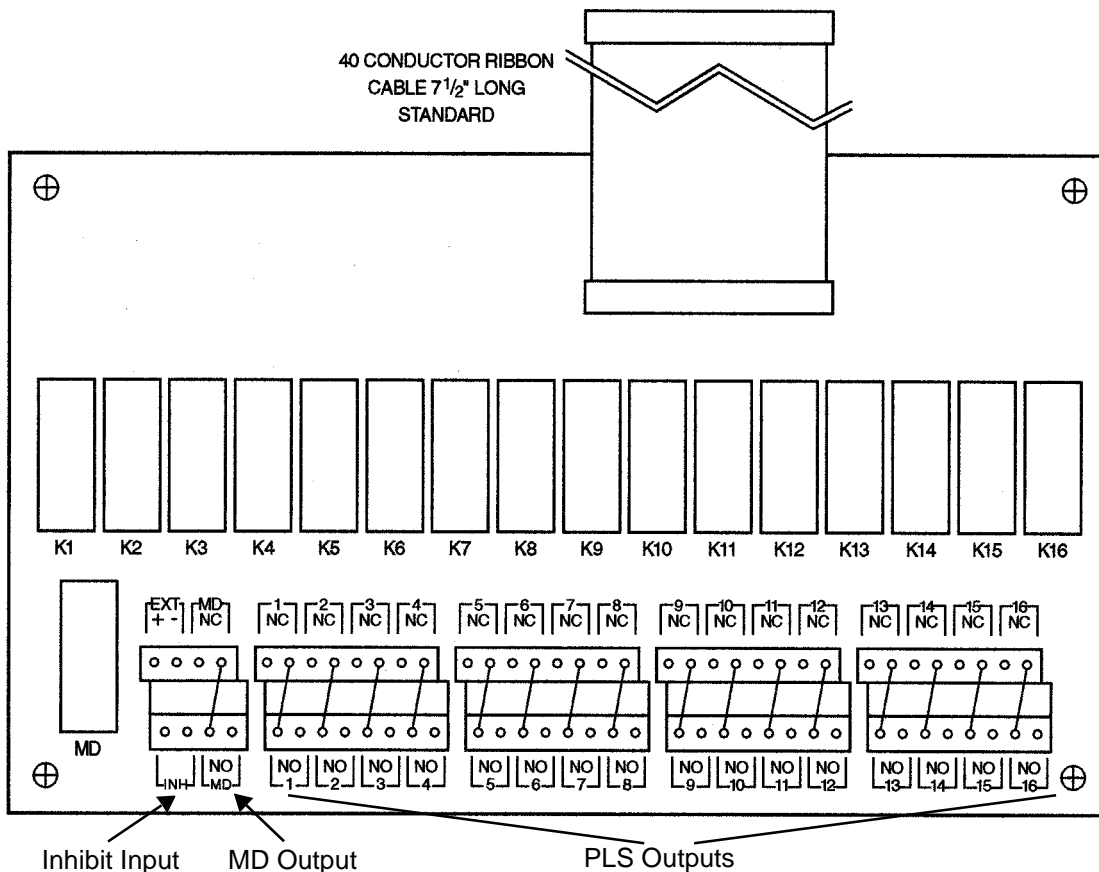

Figure 2.13 MRB-1 Relay Board I/O Connections
- PLS Outputs** The location of the connector pins for the 16 PLS outputs is shown in Figure 2.13. Separate pins are provided for each output labeled NC to identify the Normally Closed contact and NO for the Normally Open contact. All the PLS outputs are mechanical relay outputs with a maximum current rating of 10A @ 30Vdc or 10A @ 250Vac. Refer to wire code specifications for the correct gauge wire to use for each output.
- MD Output** Other connector pins labeled MD (as shown in Figure 2.13) are provided for the Motion Detector (MD) output. Note that there are separate MD pins labeled NC to identify the Normally Closed contact and NO for the Normally Open contact.
- Inhibit Input** In addition, two connector pins labeled INH (see Figure 2.13) are provided for an Inhibit input. When the inhibit input is an open circuit, all PLS outputs are inhibited or turned OFF. The output channels will operate normally if you short this input.